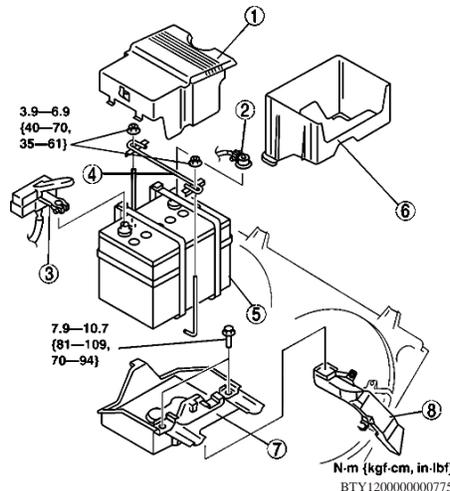

Fig. 1 Battery removal
2. Remove battery cover (1). Pull up two tabs on rear, remove tab on front, and remove battery cover (1), **Fig. 1**.
3. Remove battery ground cable (2), **Fig. 1**.
4. Remove positive battery cable (3), **Fig. 1**.
5. Remove battery clamp (4), **Fig. 1**.
6. Remove battery (5), **Fig. 1**.